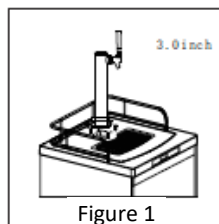

Figure 1
3.0" tower: This does not require a tower buckle. Put beer tower directly over the hole at the top of the beer dispenser's upper surface. Fix the beer tower assembly with screws directly on the upper surface of the beer dispenser. (See Fig. 1).